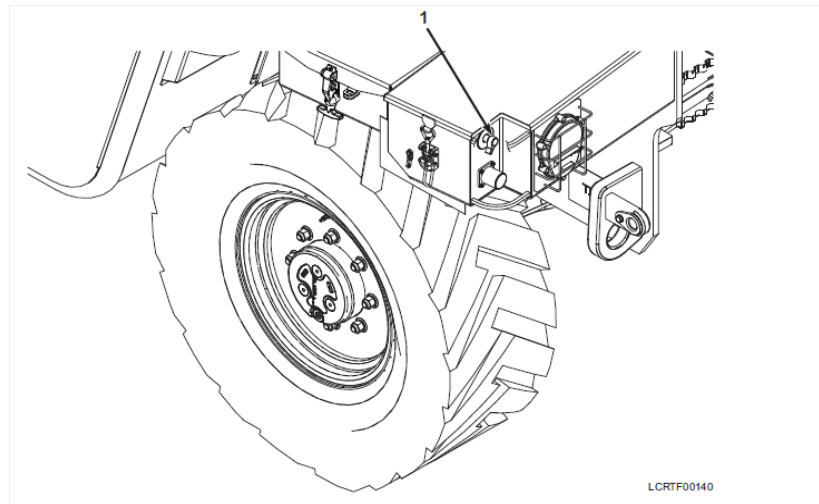

Figure 3-65
- a. Move battery disconnect switch to on position (see Figure 3-65, Item 1).